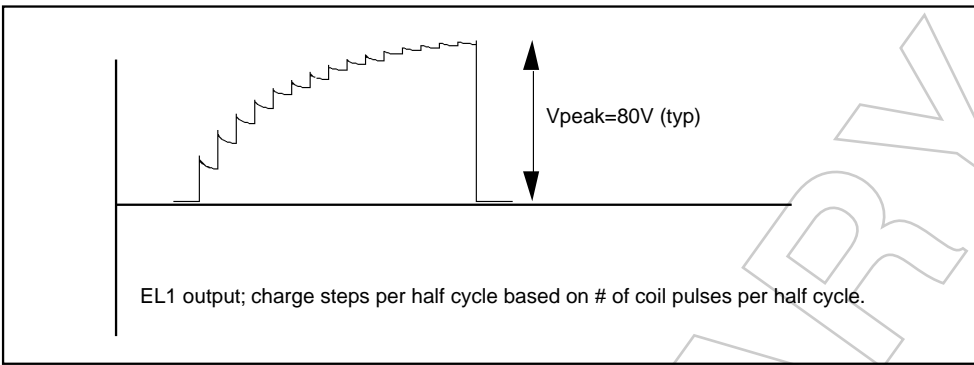
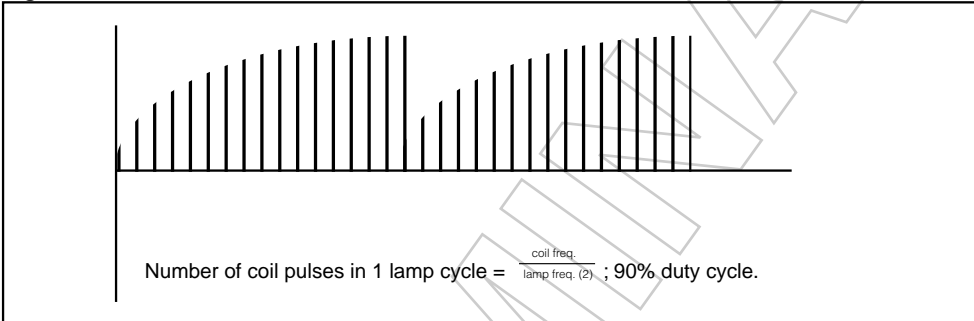

Figure 1.
Figure 2.
The F_{coil} signal controls a switch that connects the end of the coil at pin 3 to ground or to open circuit. The F_{coil} signal is a 90% duty cycle signal. During the time when the F_{coil} signal is high, the coil is connected from V_{battery} to ground and a charged magnetic field is created in the coil. During the low part of F_{coil} , the ground connection is switched open, the field collapses and the energy in the inductor is forced to flow toward the high voltage H-bridge switches. F_{coil} will send as many charge pulses as possible in 1 Lamp Cycle $\left\{ \frac{\text{Coil Freq}}{\text{Lamp Freq (2)}} \right\}$ (see *figure 2 page 6*). Each pulse increases the voltage drop across the lamp in discrete steps. As the voltage potential approaches its maximum, the steps become smaller (see *figure 1 page 6*).